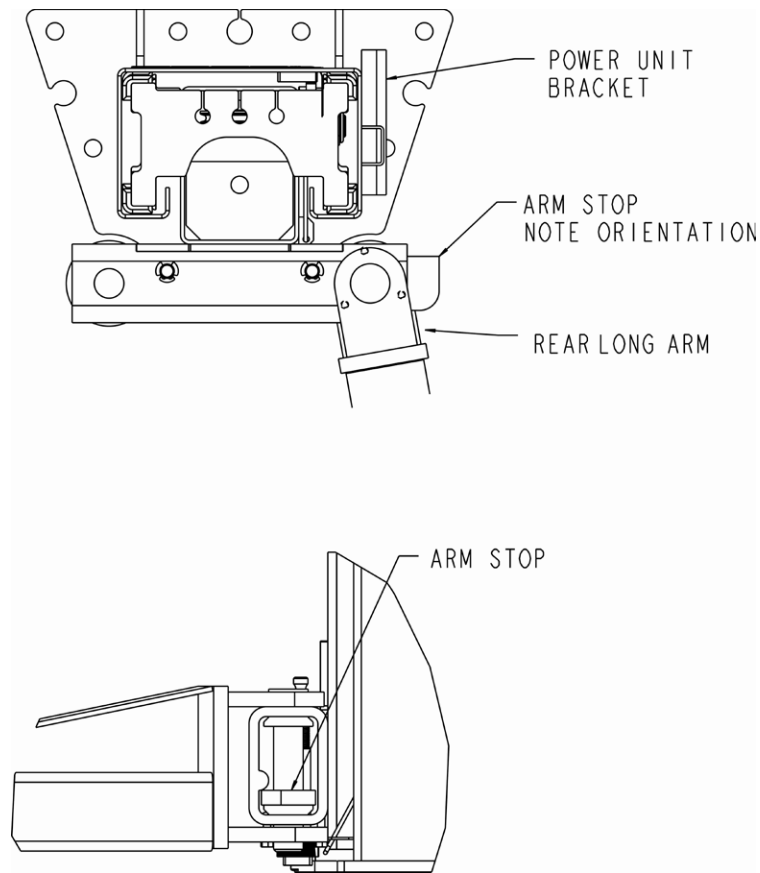

Figure 21
- * Install the swing arms and swing arm pins. If the arms are of different lengths, the longer arms go to the rear or drive in side of the lift, and the short arms go to the front, figure 21.
- * Install the swing arms and swing arm pins. If the arms are of different lengths, the longer arms go to the rear or drive in side of the lift and the short arms go to the front, figure 21.